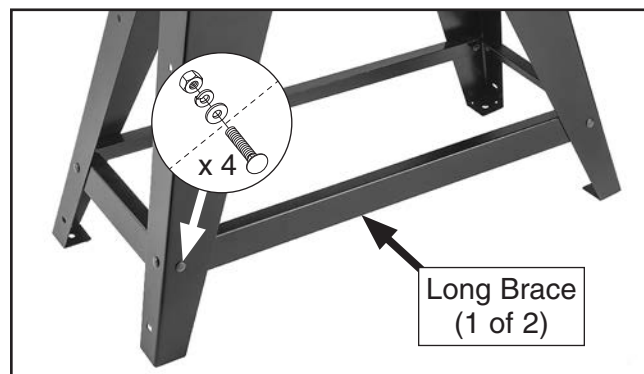

Figure 12. Long braces attached to legs.
5. Remove bandsaw from sawhorses and attach long braces to legs with (4) M8-1.25 x 16 carriage bolts, 8mm flat washers, 8mm lock washers, and M8-1.25 hex nuts (see **Figure 12**).